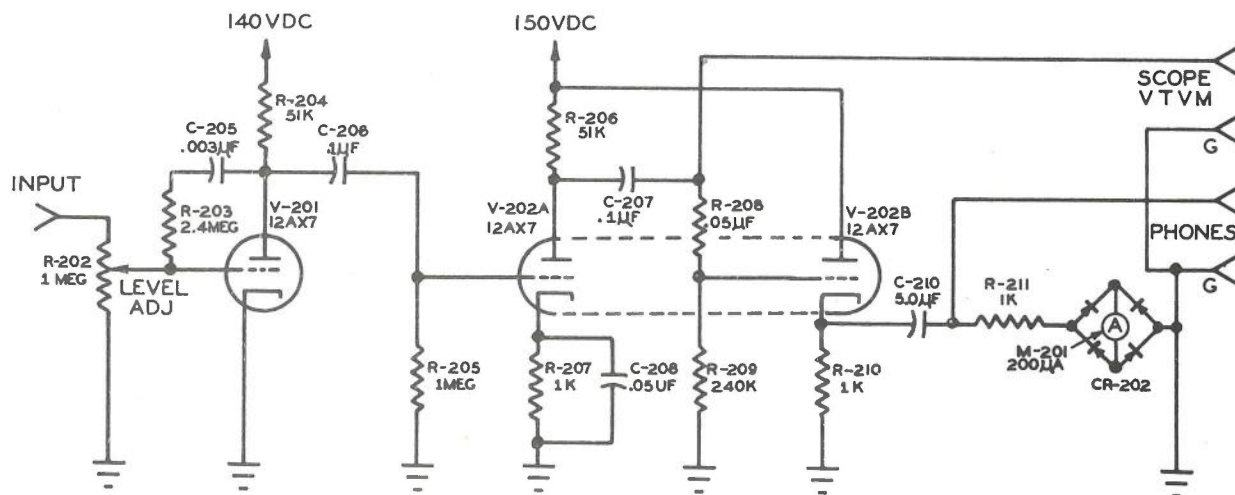

Figure 2-3. Simplified Schematic, Signal Tracer
d. BASIC CIRCUIT OF SIGNAL TRACER TS-673/U. (See figure 2-3.) - This unit comprises a conventional three stage linear amplifier, the output of which is of the cathode follower type, and a power supply capable of operating on 50 to 1600 cycle source. The power supply is of the full wave type with capacitor input and resistor capacitor filter network. The power transformer is of special design to cover the power supply frequency range. The following items are accessories.